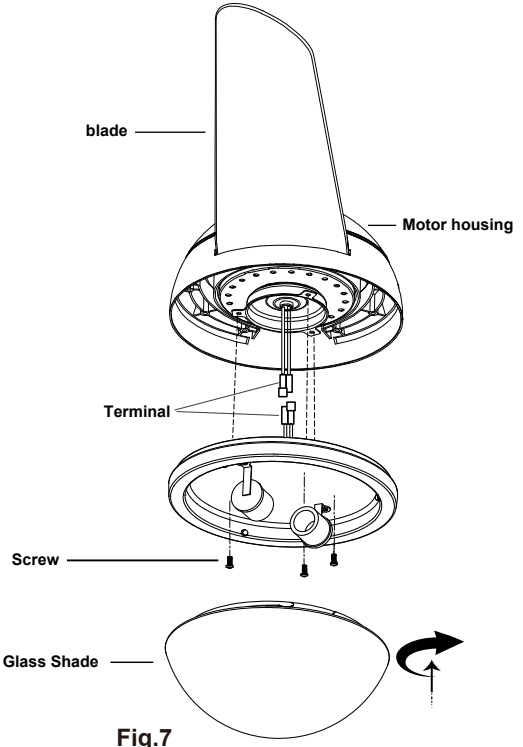

Fig.7
- Step 4 The lamp panel is connected to the wire. (Fig. 7)
- Step 5 Insert the spring loaded mount of the lamp into the keyhole mount of the motor plat. (Fig. 7)
- Step 6 Turn the light kit counterclockwise to lock the light kit. (Fig. 7)